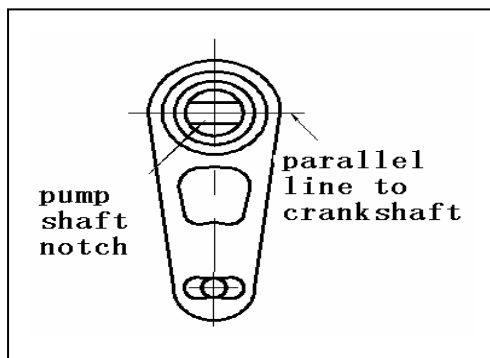

Fig.3-10 The position of groove in connecting rod in cylinder
C .Main points for installing piston and connecting rod assembly. There are fitting marks on piston head and connecting rod shank. Sure that the mark s are in the same direction (refer to fig.3-10) .Be careful to avoid mistakes.
D. When installing piston and connecting rod assembly into cylinders. The marked surfaces of the connecting rod and piston must face the front of engine (fig.3-10).